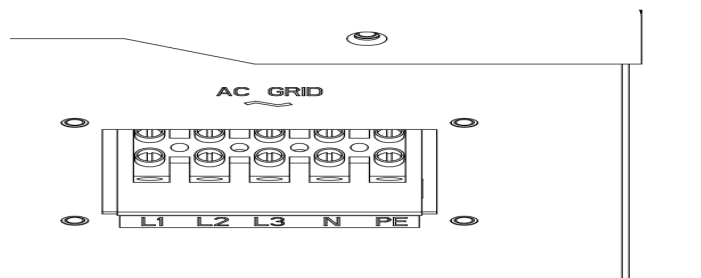

Figure 30 AC terminals
6. Raise all five terminals of the AC terminal as far as they will go (see fig 30).